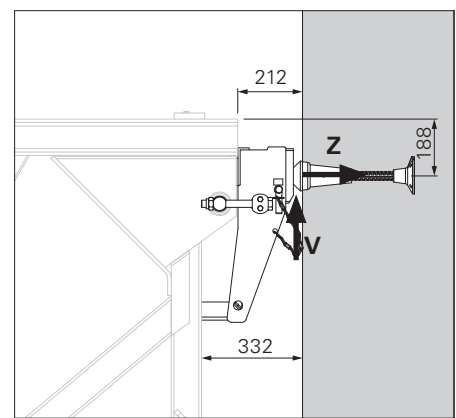

Fig. F2.02
1. Lightly loosen the concreted Climbing Cones-2 (63) and then re-tighten, SW 55.
2. Screw in Scaffold Mounting Ring M36 (64) with Hex. Bolts M36, SW 55 (64.1) into the Climbing Cones-2.
5. Install working platform with the Wall Scaffold Hinges in the Scaffold Mounting Rings, and secure with bolts. (Fig. F2.02 + F2.03)